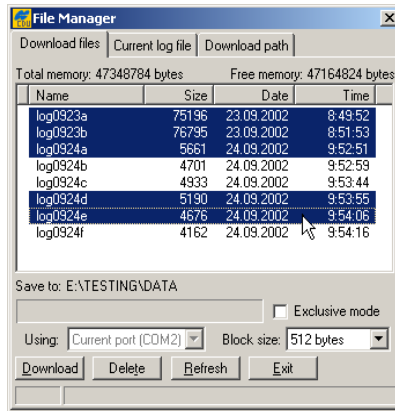

Figure 3-17. Download Files to Computer
6. Click the file(s) to download (Figure 3-17 on page 3-27).